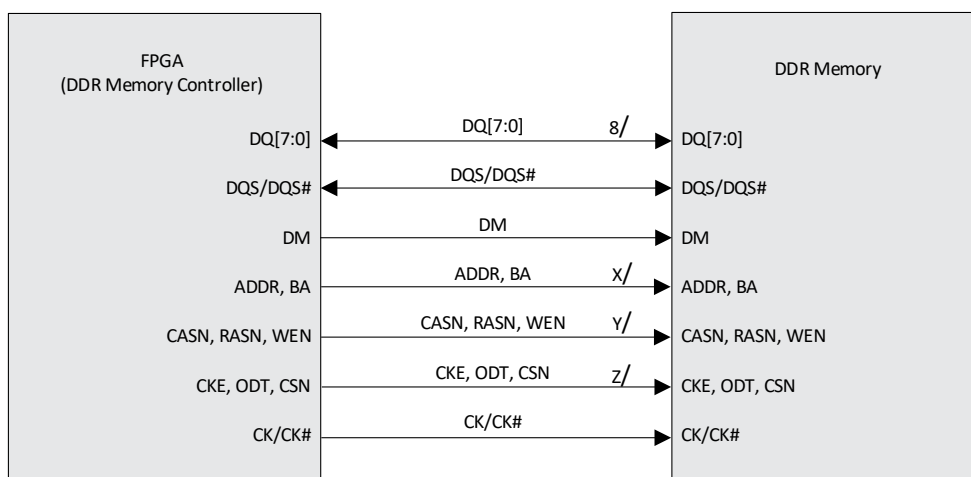
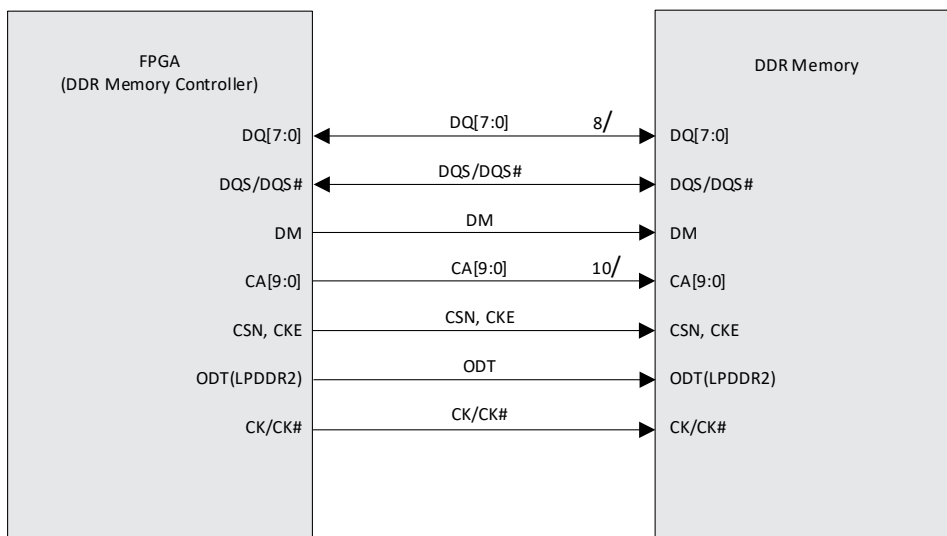
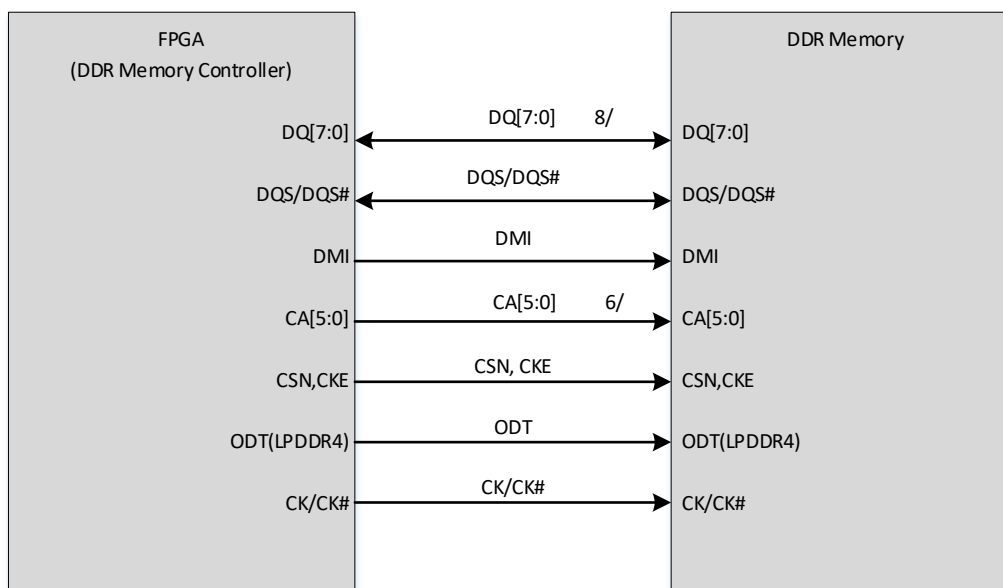

Figure 6.1. Typical DDR3/DDR3L Memory Interface
Figure 6.2. Typical LPDDR2 Memory Interface
Figure 6.3. Typical LPDDR4 Memory Interface
Figure 6.1, Figure 6.2, and Figure 6.3 show the typical DDR memory signals. DDR3, DDR3L, LPDDR2, and LPDDR4 memory interfaces are typically implemented with eight DQ data bits per DQS. Therefore, a 16-bit DDR memory interface uses two DQS signals, and each DQS is associated with eight DQ bits, respectively. Both the DQ and DQS are bi-directional ports and are used to read and write to memory.
DDR memories also require a Data Mask (DM) signal to mask data bits during write cycles. For LPDDR4, Data Mask Inversion (DMI) signal mask data bits during write cycles or inverts data bit during write cycles depending on Mode register setting. Note that the ratio of DQS to data bits is independent of the overall width of the memory. Figure 6.1, Figure 6.2, and Figure 6.3 show the typical 8-bit interface that has eight associated DQ data bits per DQS strobe signal.